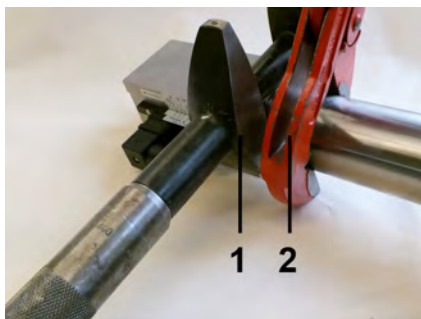

Fig. 11: Screw in the device
2. ➤ Using the pipe wrench, (Fig. 11/2) screw the pipe line into the device. When doing so, lock the device body in place to prevent slip, using a suitable spanner (Fig. 11/1).